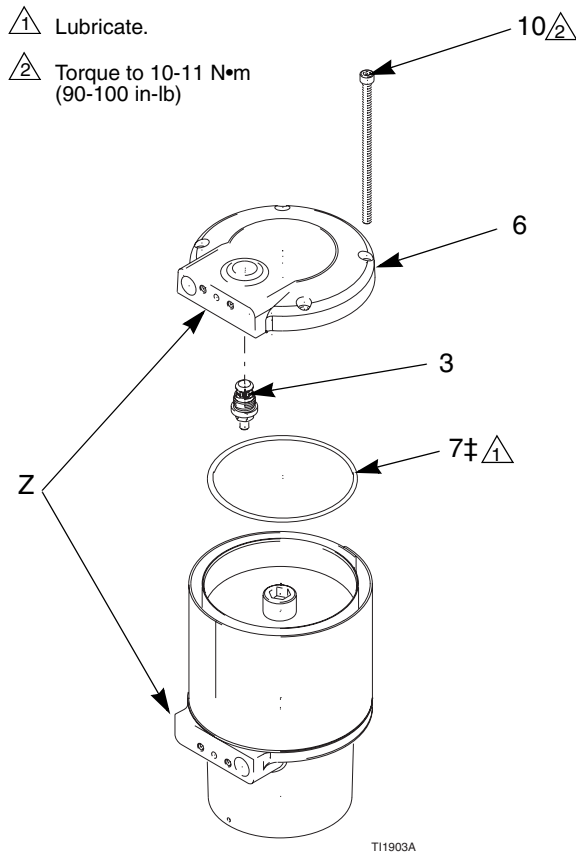

FIG. 8. Top Cover
3. Remove the screws (10). Lift the top cover (6) off the air motor. Turn the cover over and remove the pilot valve (3). Remove the o-ring (7). See FIG. 8.
5. Install the o-ring (7‡) and the pilot valve (3) on the inside surface of the top cover (6). Lubricate the o-ring. Install the top cover (6), making sure the air valve porting (Z) faces the same way as the porting on the base. Torque the screws (10) to 10-11 N•m (90-100 in-lb). See FIG. 8.